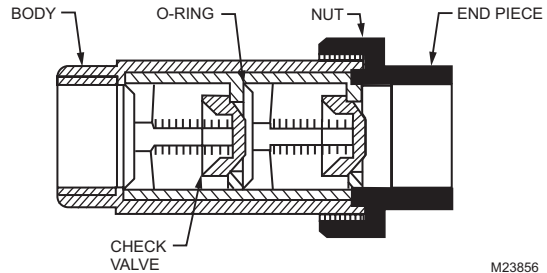

Fig. 2. Backflow Preventer.
1. The BP700 Dual Check Valve may be installed in either a vertical or horizontal position and should be installed immediately down stream of the water meter. If a reducing valve is used then the Dual Check can be installed as indicated in Fig. 2.